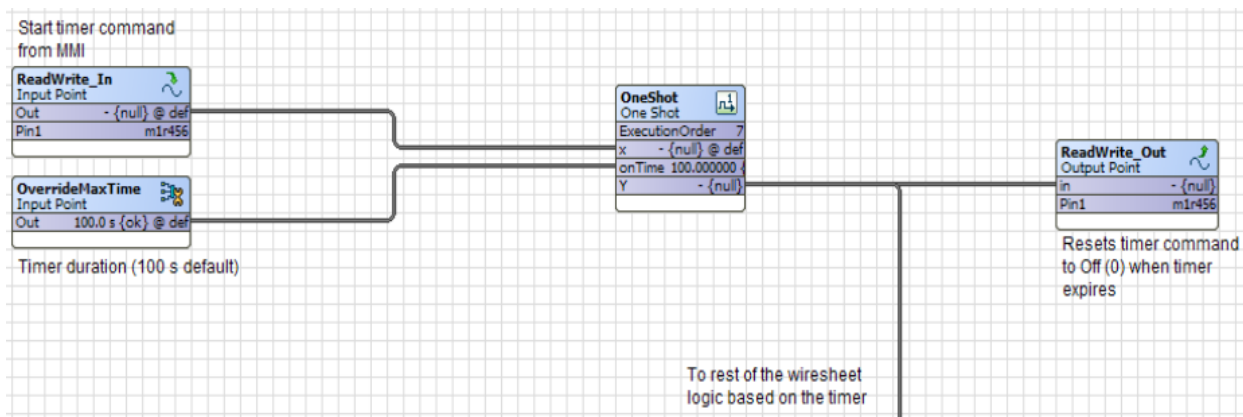

Figure 1: OneShot timer using read/write registers
### Example (Figure 1):
When the “OneShot” timer expires, the output of the “OneShot” timer reverts back to 0 (OFF) thereby writing a value of 0 to the “ReadWrite\_Out” ModulatingOutput block. At the same time, the “ReadWrite\_In” ModulatingInput block receives that same value of 0 (See Figure 1). The “OneShot” timer is ready for another cycle without the operator having to reset the timer back to OFF (0), automatically rendering the timer ready for the next timer start.